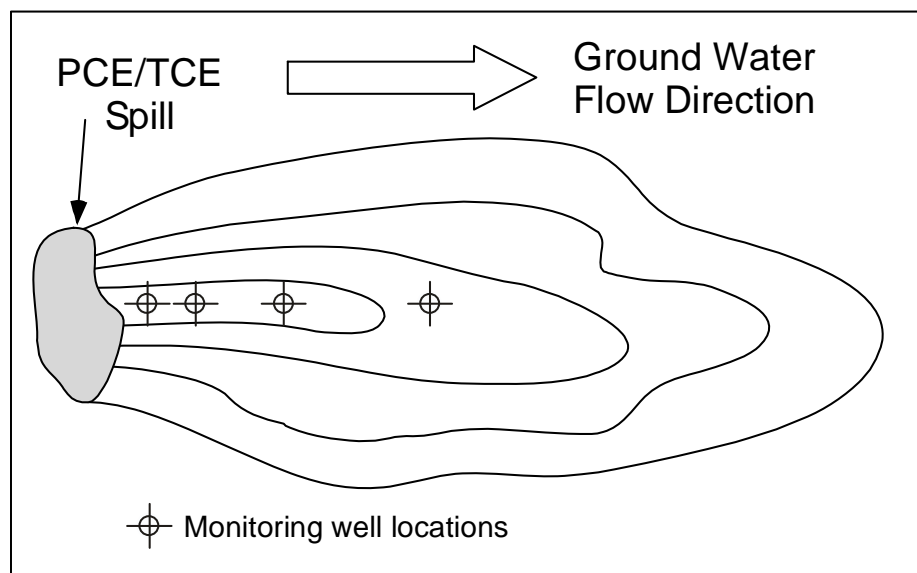

Figure 1. Conceptual Representation of Problem.
The problem presented here includes a hypothetical aquifer contaminated with perchloroethene (PCE) and trichloroethene (TCE). The site layout is shown in Figure 1. The ground water flow direction is from left to right and there are four monitoring wells with observed contaminant concentrations. We will use ART3D to track the movement of the PCE and TCE through the aquifer due to advection, dispersion and retardation and will simulate their degradation to daughter products dichloroethene (DCE) and vinyl chloride (VC). The model will be subjected to a stochastic analysis and then will be calibrated to match the field data.